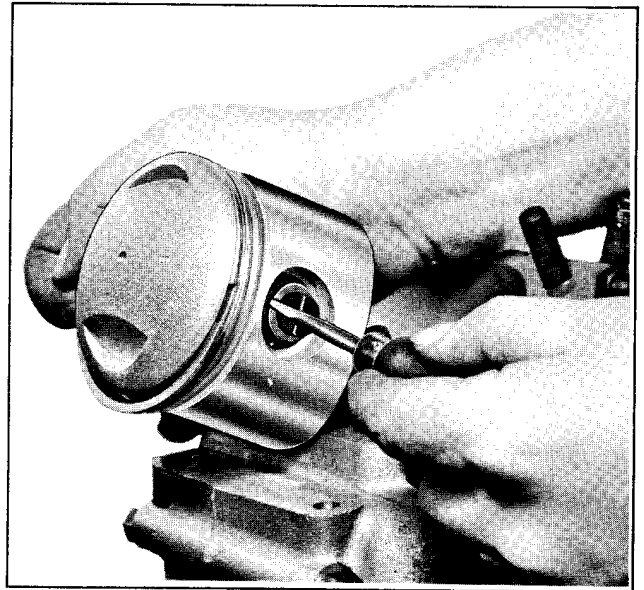

Figure 3-9. Removing Piston Pin Lock Ring
ring expander if necessary. Pry right piston pin lock ring (6) off piston pin using the Piston Lock Ring Tool, Part No. 96780-32A (see Figure 3-95) and screwdriver as shown in Figure 3-9. Right end of piston pin has slots for this purpose. Tap out piston pin (7) and lift off piston (8).